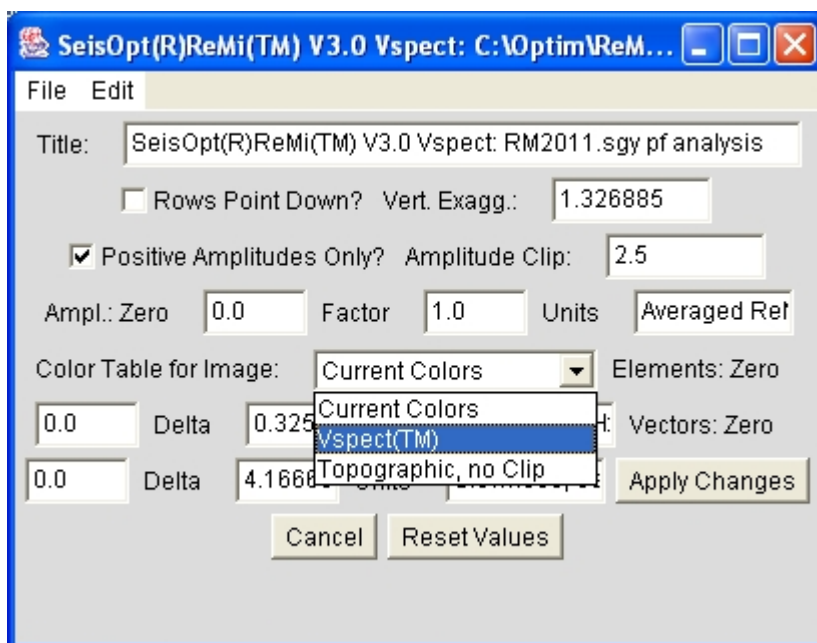

Figure 40: Choose “Vspect™” as shown above. To go back to the original color palette choose “Topographic, no Clip” option.
- ◆ Choose "Vspect™" color palette as shown in Figure 40.